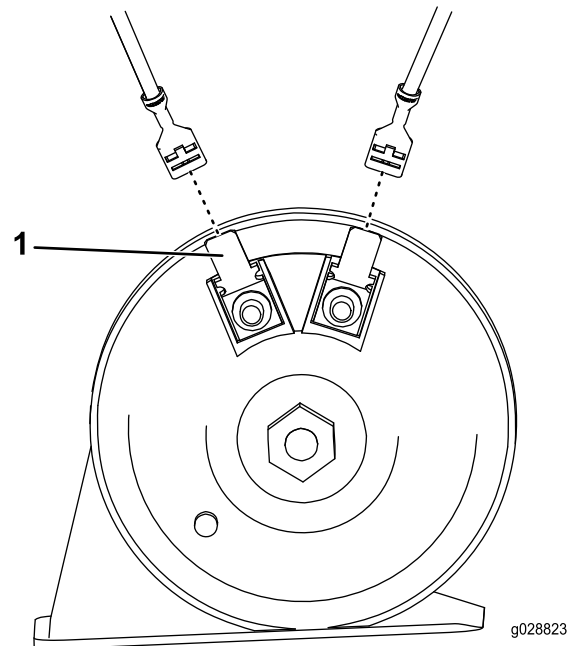

Figure 10
5. Connect the wiring harness to the horn posts (Figure 10).